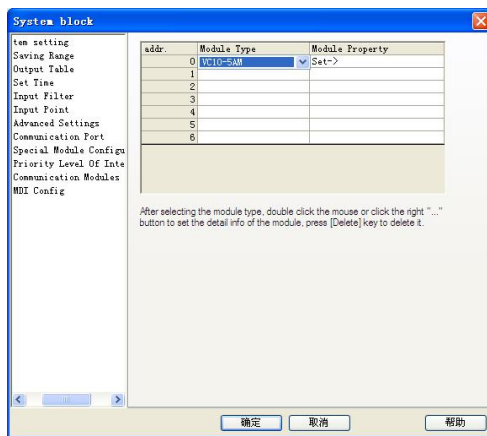
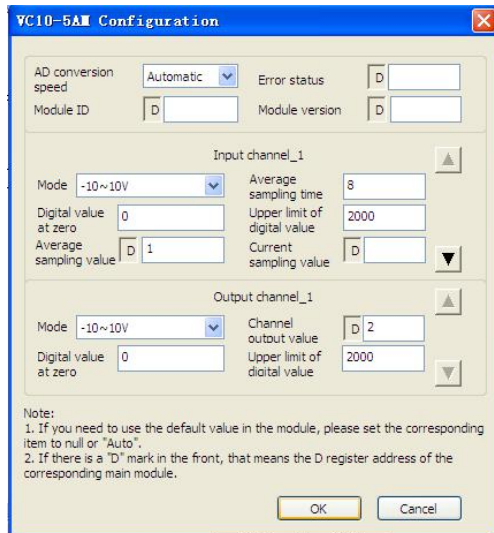

Figure 4-1 Setting special module type
Figure 4-2 Setting special module parameters
9. BFM#4094: module software version, displayed automatically as **Module Version** in **VC10-5AM Configuration** dialogue box of the host software, as shown in Figure 4-2.
Example: The VC10-5AM module address is 1 (for the addressing of extension modules, see *VC10 Series PLC User Manual*). Use its channels 1, 2, 3 and 4 for voltage signal input (-10V~10V), set the average sampling times to 4, and use data registers D1, D2, D3 and D4 to receive the average value; set output channel to mode 0 to output 10V voltage signal, and use D5 element. Set extension module type as shown in Figure 4-1, and set actual parameters of extension module. Figure 4-2 shows the setting of input channel 1 and output channel 1. Set the other three input channels respectively in the same way.